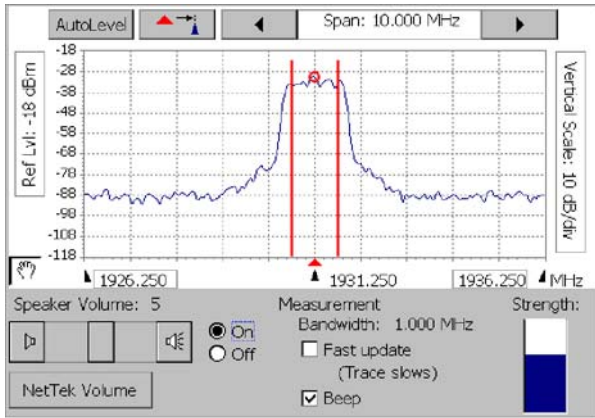

Figure 3-22: Example of a signal strength display
5. Set the Measurement Frequency to a signal of interest on the trace. Figure 3-22 shows an example of a signal strength display.
The Measurement Bandwidth, shown below the graph area in Figure 3-22, is the frequency range that fits within one horizontal division around the Measurement Frequency. You can change the span to adjust the Measurement bandwidth.